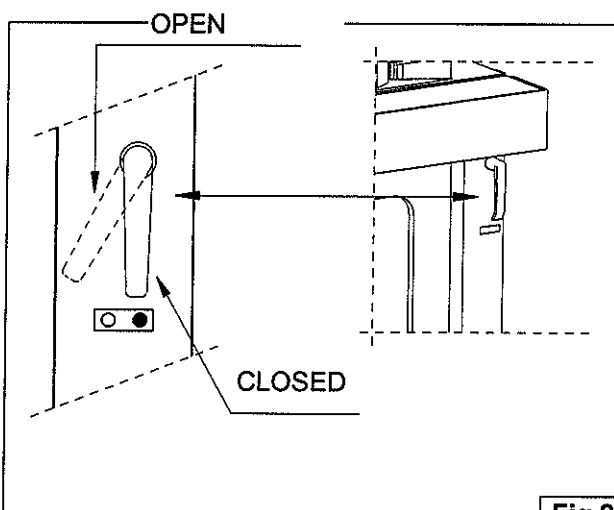

Fig.29
Close and lock the door; close the manual lock on the steam box (Fig. 29); set a temperature of 60°C and switch on the fan ; press the START button . The set of elements starts to operate and after a few minutes, when it reaches the temperature set, it should go off.
- Open the manual steam vent as shown in **Fig. 29**